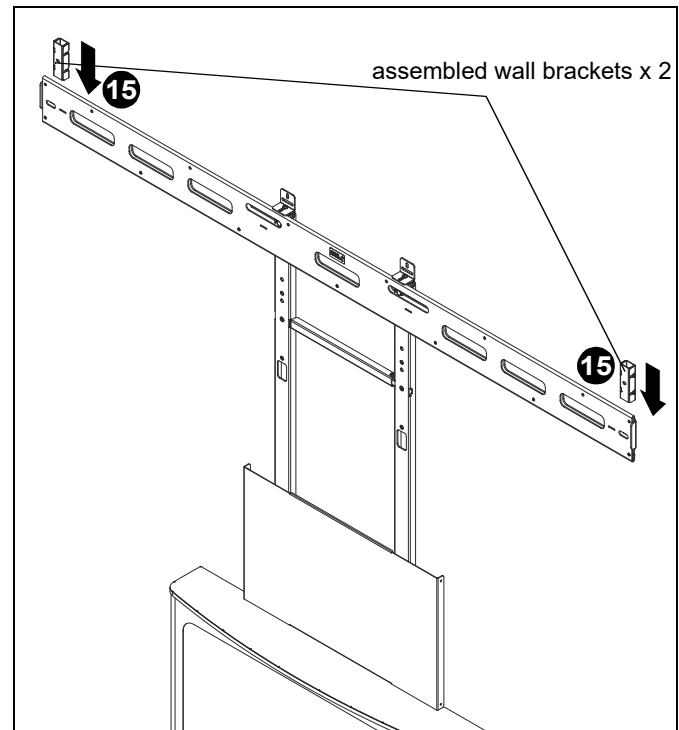

Figure 7
15. Slide two assembled wall brackets behind cross bracket on each end. (See Figure 7)